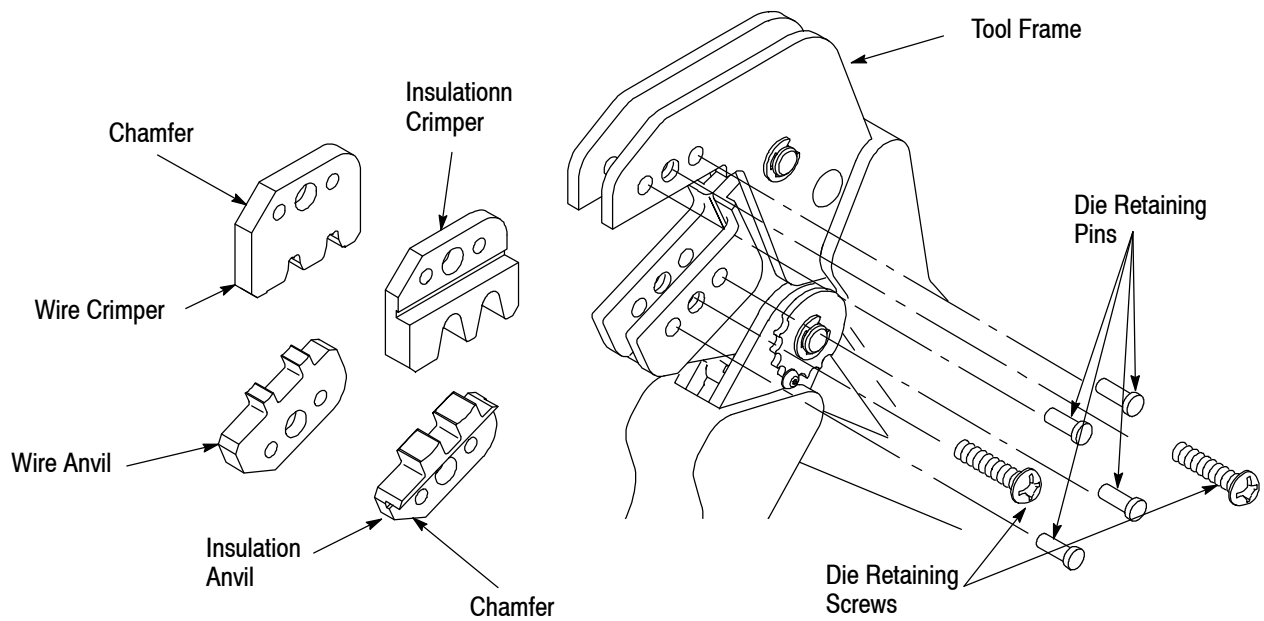

Figure 2
**3. INSTALLATION AND REMOVAL OF DIE SET** (Figure 2)